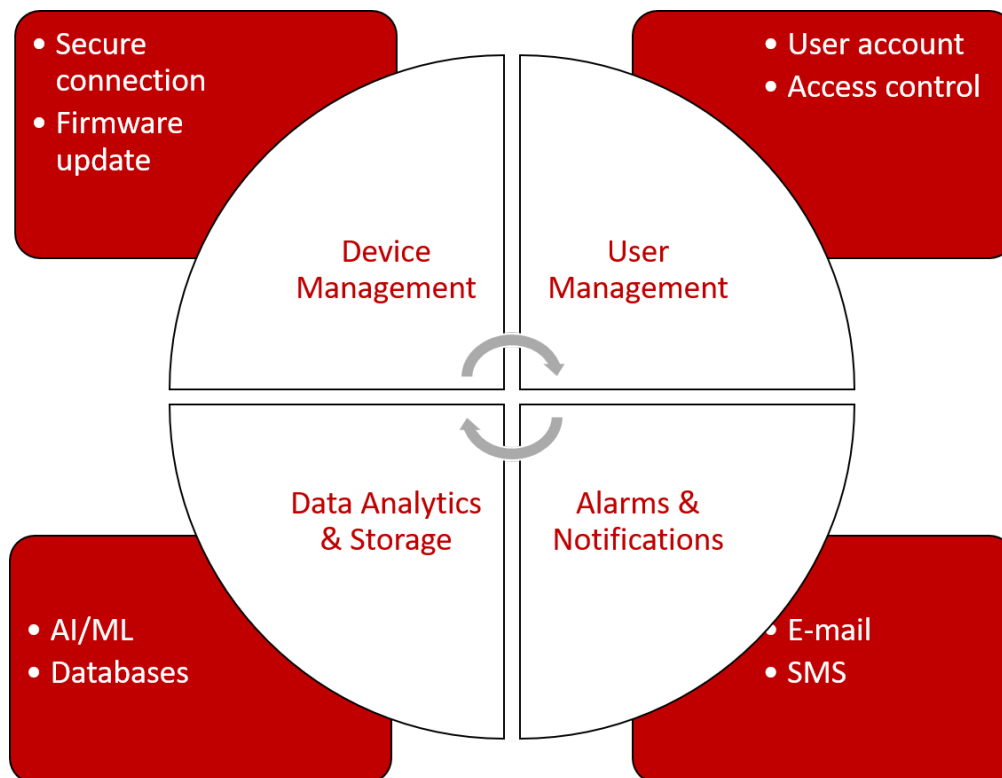

Figure 2: Components of a data platform
further analysis. Options here can range from a local database to a cloud server with redundancies. A typical platform consists of the components as shown in figure 2. The data platform enables the use of technologies like Artificial Intelligence (AI) and Machine Learning (ML) to perform advanced data analytics that generates value additions to the application.